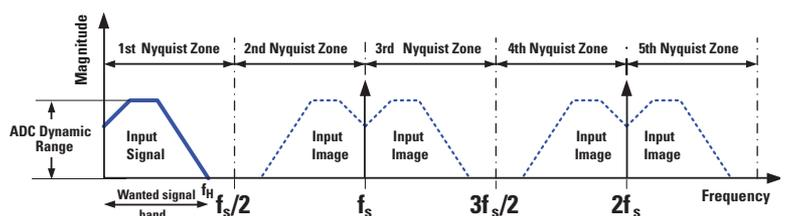

Figure 2a. 1st Nyquist baseband sampling where ($f_s > 2f_H$)
Sampled-data systems can be split into two main types. The simplest is the baseband system also known as the "1st-Nyquist-zone" system. The second is the more complex under-sampled system, often referred to as bandpass, narrow band, sub-sampled, or Intermediate Frequency (IF)-sampled system. Baseband-system signal paths are generally DC-coupled while IF-bandpass signal paths tend to be AC-coupled. In a conventional 1st-Nyquist-zone system, the ADC samples the input at sample rate, f_s , which is at least twice the highest signal frequency, f_H , present at the ADC input (*Figure 2a*).